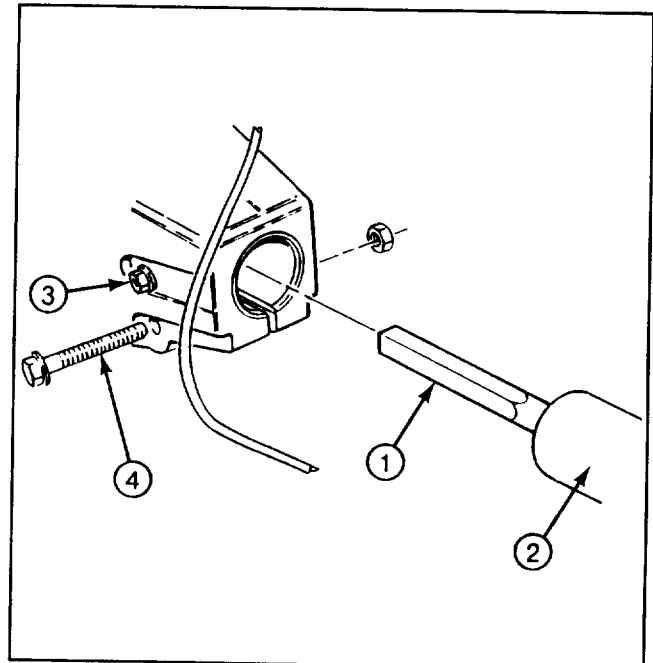

Figure 25
1. To remove drive shaft from housing, remove set-screw from side of engine mount, loosen engine mount clamping screw, and slide engine off drive shaft housing (Fig. 25). Then pull drive shaft from drive shaft housing.